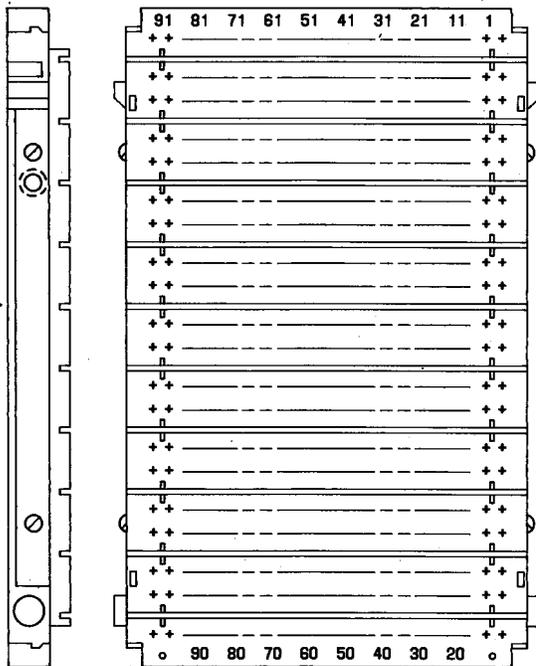

Fig. 24—306A1-100 Connector
**2.16 306A1-100:** The 306A1-100 connector (Fig. 24) consists of a molded plastic panel, terminals, ground terminals, ground rods, ground bars and screws as an assembly. This connector is used in the COSMIC\* II main distributing frame as a component part of the 307A1 and B1-100 connector assemblies.